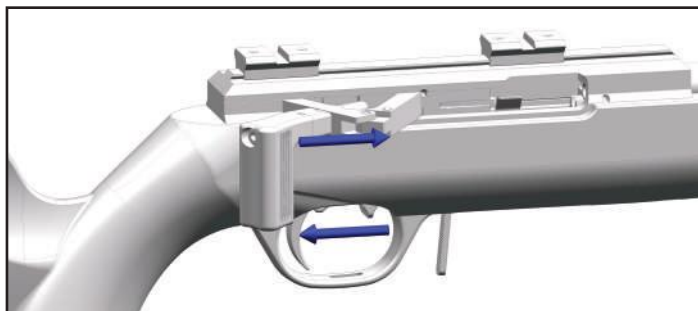

figure 6B
5. Close the system (figure 6B).